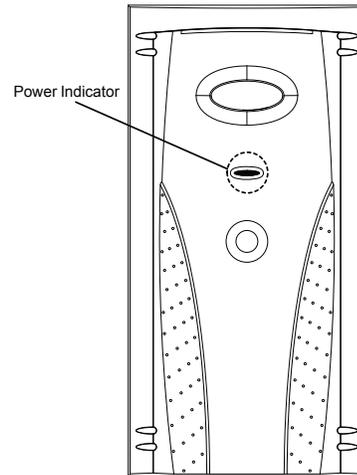

Fig. 10 - Power Indicator
- d. The power indicator light above the Air Purifier power switch should illuminate (see Fig. 10).
The air purifier is equipped with a power indicator light located on the door (see Fig. 10). This power indicator light will illuminate when the air purifier door is installed, the power switch is in the on position, AND the furnace blower is running. If the power indicator light is not illuminated, follow the troubleshooting steps below.